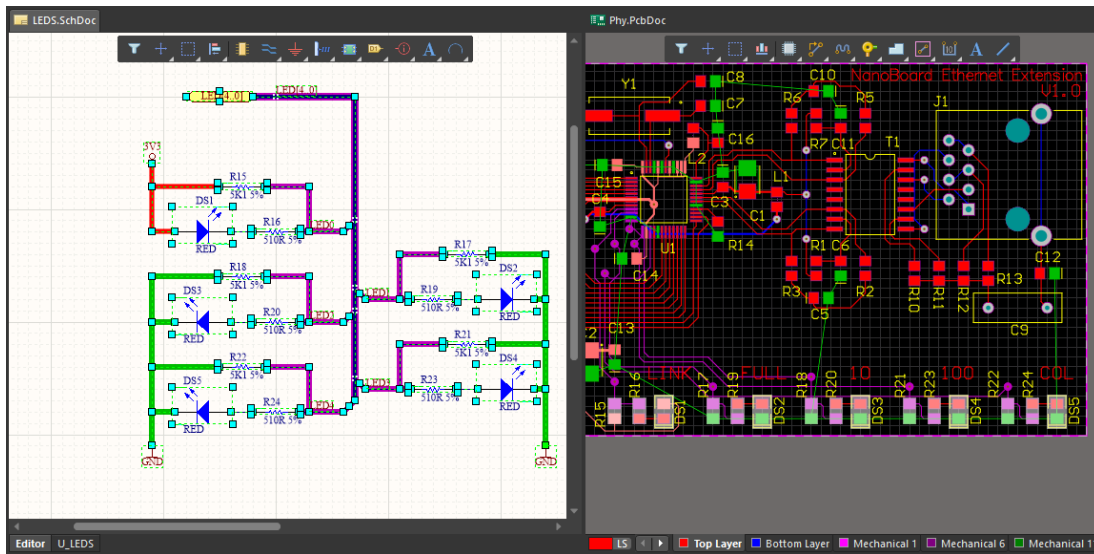

Figure 6. Cross Select Mode Preview
14. From the **Tools** menu, select **Select PCB Components**. Notice that the components in the PCB will be selected as shown in Figure 6.